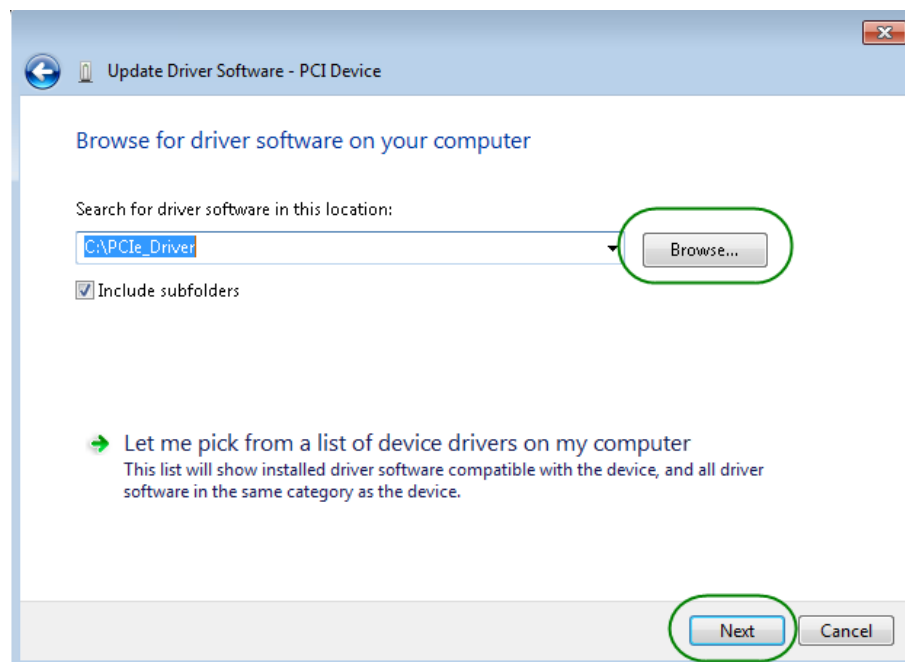

Figure 5 Browse for driver software on your computer
9. In the **Browse for driver software on your computer** dialog, click the **Browse** button to specify the folder where altera_pcie_din_driver.inf is located, as shown in **Figure 5**. Click the **Next** button.